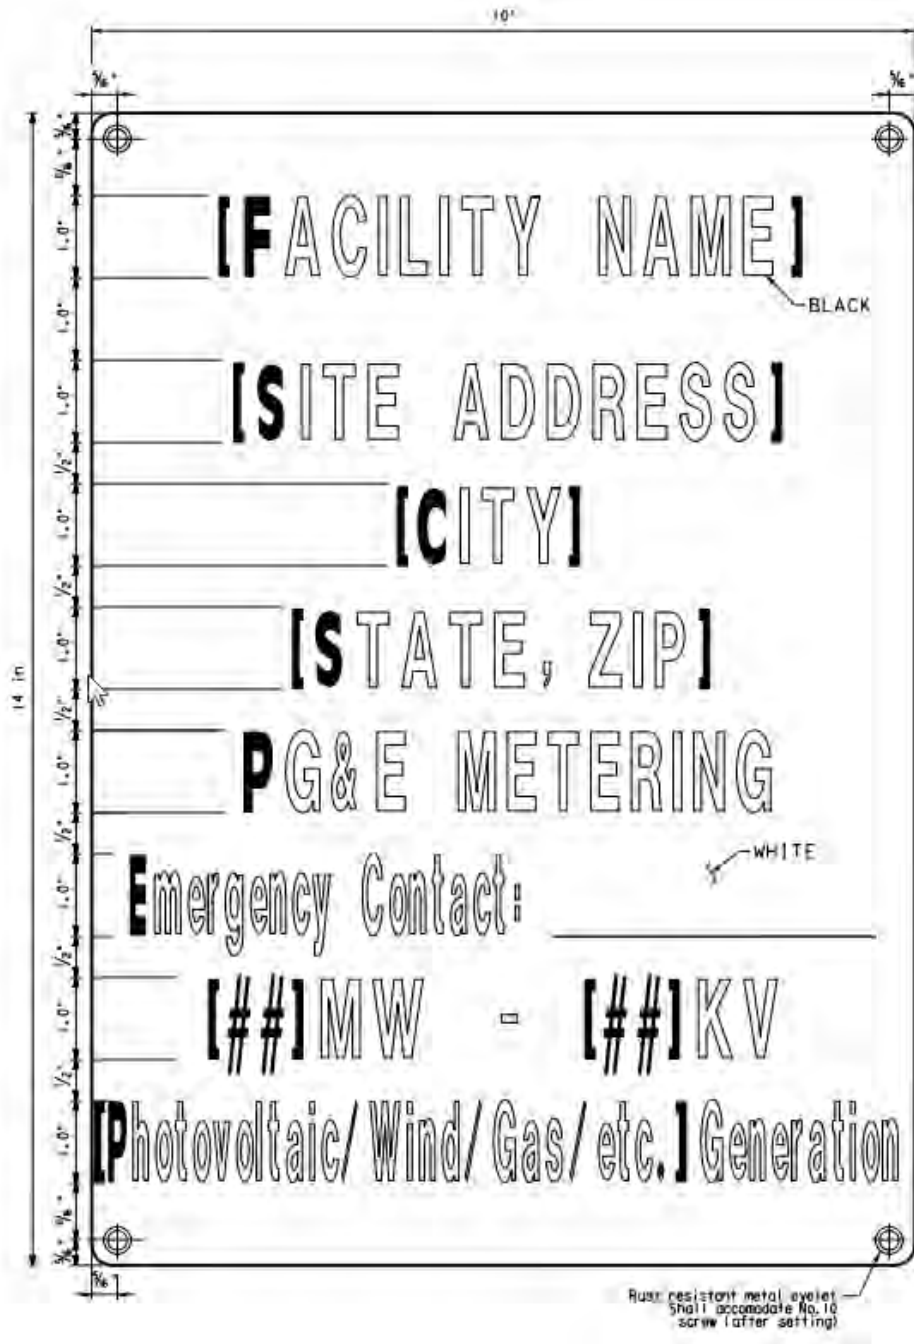

Figure 5. Example Metering Facility Identification Sign
4. SEE Figure 5 below for an example of a PG&E metering facility identification sign required at facility entrances.